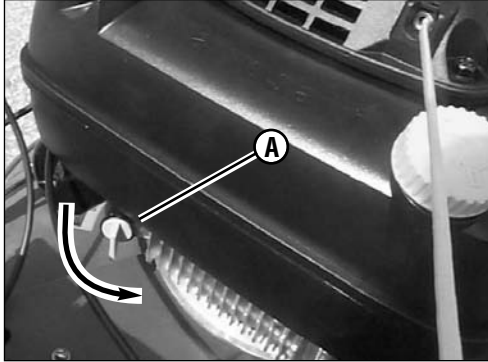

Figure 5: Fuel shut-off (Kawasaki engine only)
1. Make sure the fuel valve (A, Figure 5) on the engine is open.